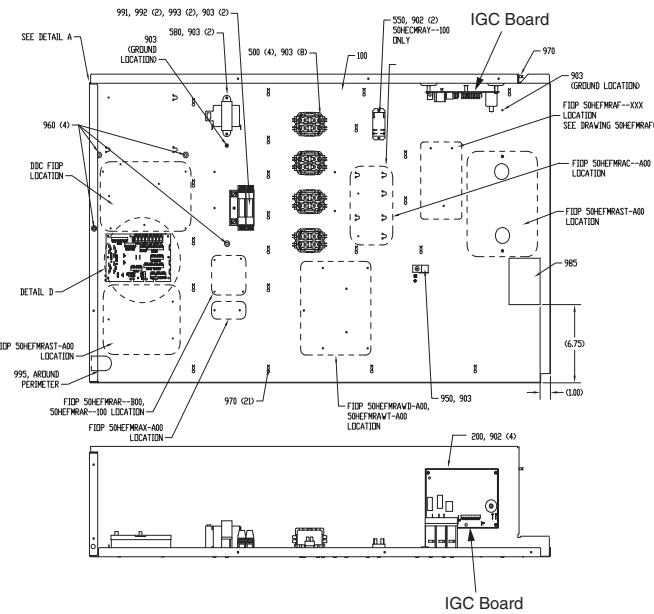
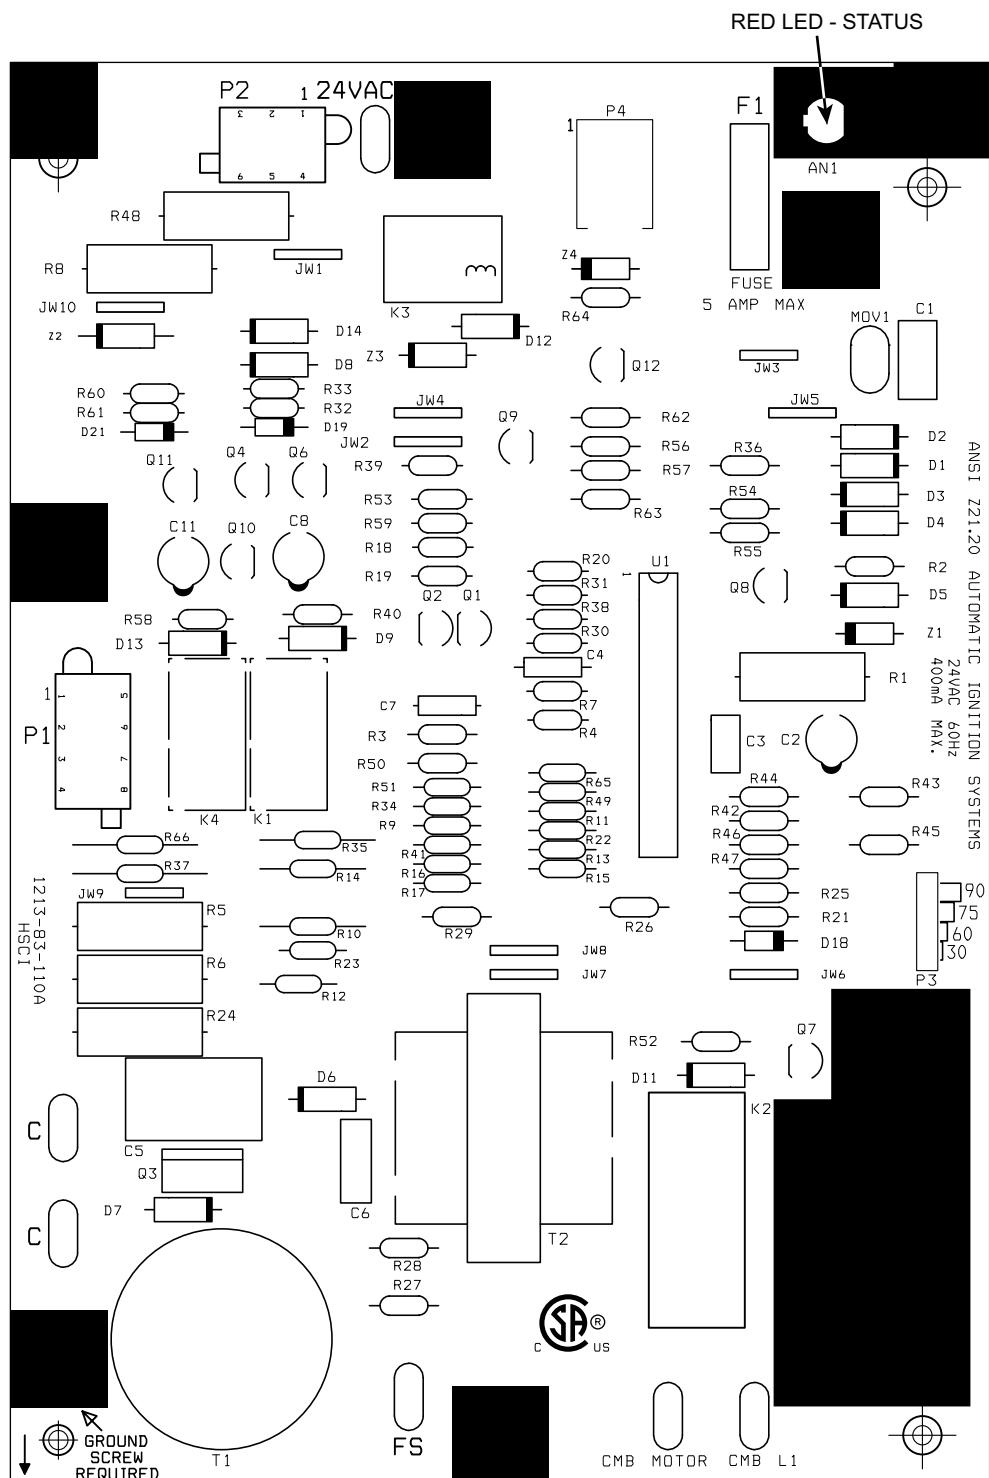

Fig. 35 — Unit Control Box/IGC Location
Fig. 38 — Integrated Gas Control (IGC) Board
5. Remove igniter wires and sensor wires at the Integrated Gas Unit Controller (IGC). (See Fig. 35.)
Unit is equipped with a direct spark ignition 100% lockout system. The Integrated Gas Unit Controller (IGC) is located in the control box. (See Fig. 35.) The IGC contains a self-diagnostic LED (light-emitting diode). A single LED (see Fig. 38) on the IGC provides a visual display of operational or sequential problems when the power supply is uninterrupted. When a break in power occurs, the IGC will be reset (resulting in a loss of fault history) and the indoor (evaporator) fan ON/OFF times will be reset. The LED error code can be observed through the viewport. During servicing, refer to the label on the control box cover or Table 9 for an explanation of LED error code descriptions. See Table 11 for IGC connections.